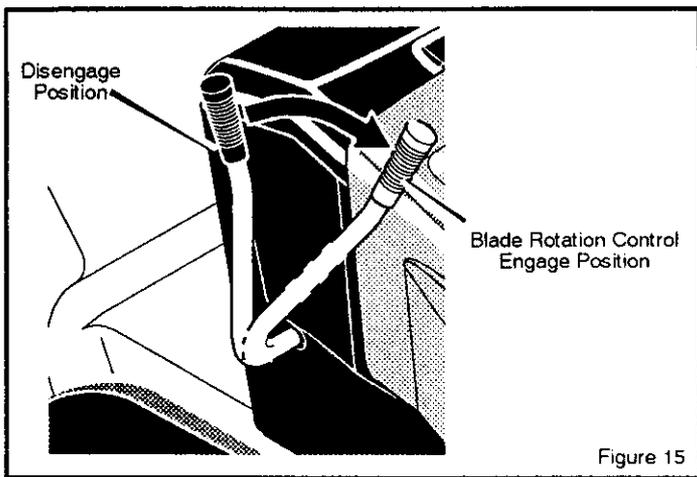

Figure 15
2. Move the blade rotation control to the **DISENGAGE** position (Figure 15).